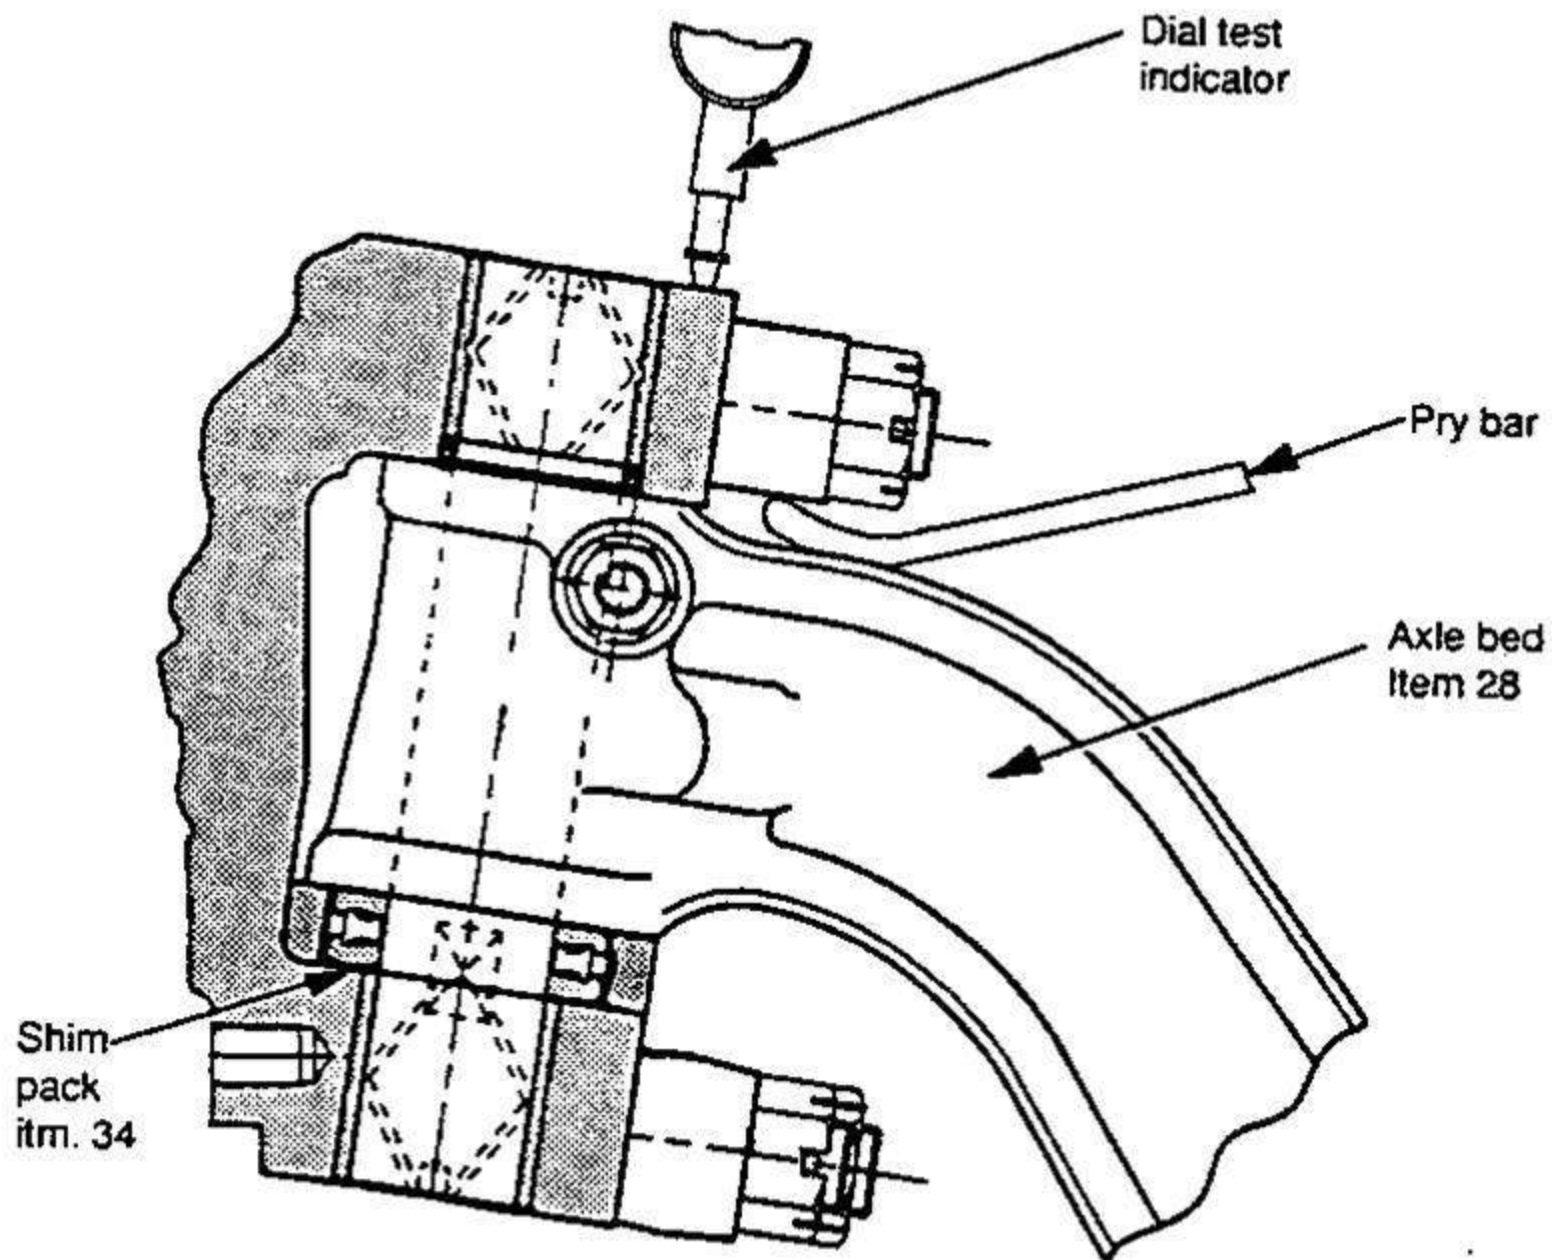

Fig. 3
- j) Push swivel pin (47) through swivel (14) and axle bed (28) ensuring that the machined groove in the pin is correctly aligned with the swivel pin cotter pin hole in axle bed.
- k) Fit swivel pin cotter pin (27), washer (29) and its nut (30) but Do Not tighten nut.
- m) Locate top steering lever (22) onto its studs (24) securing with nuts (23). Tighten nuts to 190 -275 lbs ft. (258 -387 Nm).
- a) Mount a dial test indicator on axle bed (28) and position pointer on top swivel jaw (14). See fig 3.